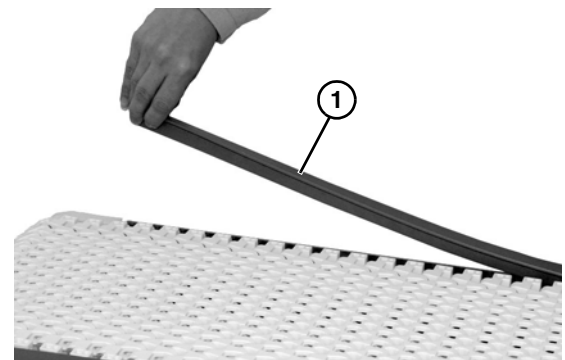

Figure 31
12. Install the top bar caps (**Figure 31, item 1**) on the conveyor frame with wide lip facing up to cover the belt tabs.